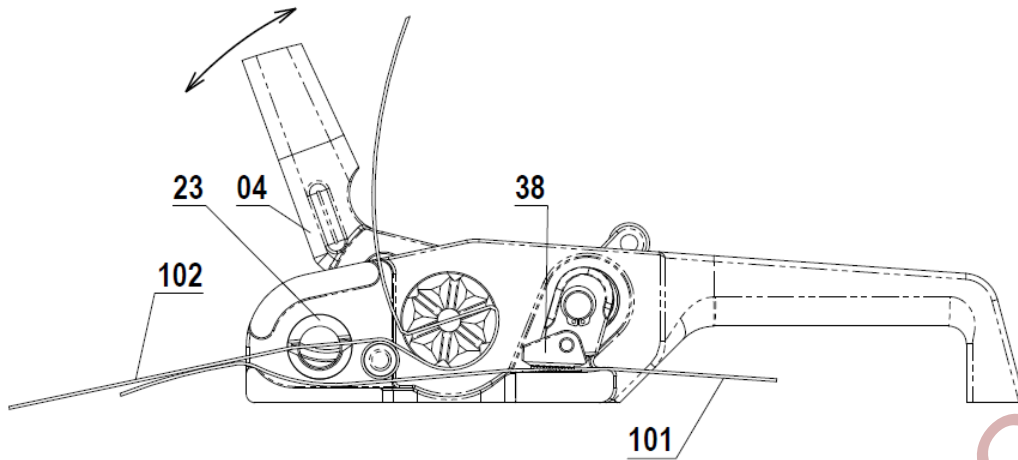

Fig. 4
3. Apply tension by ratcheting **Tension Handle 04** as shown on Fig. 4.